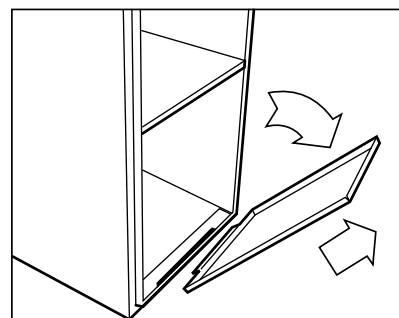

Fig. 22 - Blower Access Panel
b. Remove blower access panel. See Fig. 22.